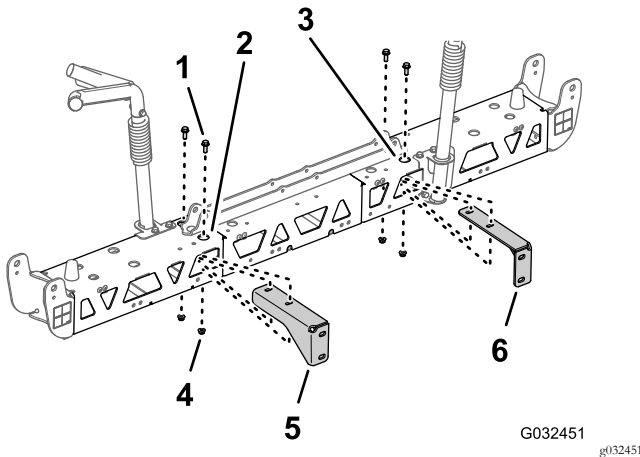

Figure 78
2. Align the holes in the right support bracket to the holes in the right truss frame as shown in Figure 78.
3. Assemble the right support bracket to the right truss frame (Figure 78) with the 2 flange-head bolts (3/8 x 1 inch) and 2 flange locknut (3/8 inch) that you removed in steps 2 and 3 of Removing the Support Brackets from the Center Boom Section (page 32).
4. Repeat steps 2 and 3 for the left support bracket at the left truss frame (Figure 78).